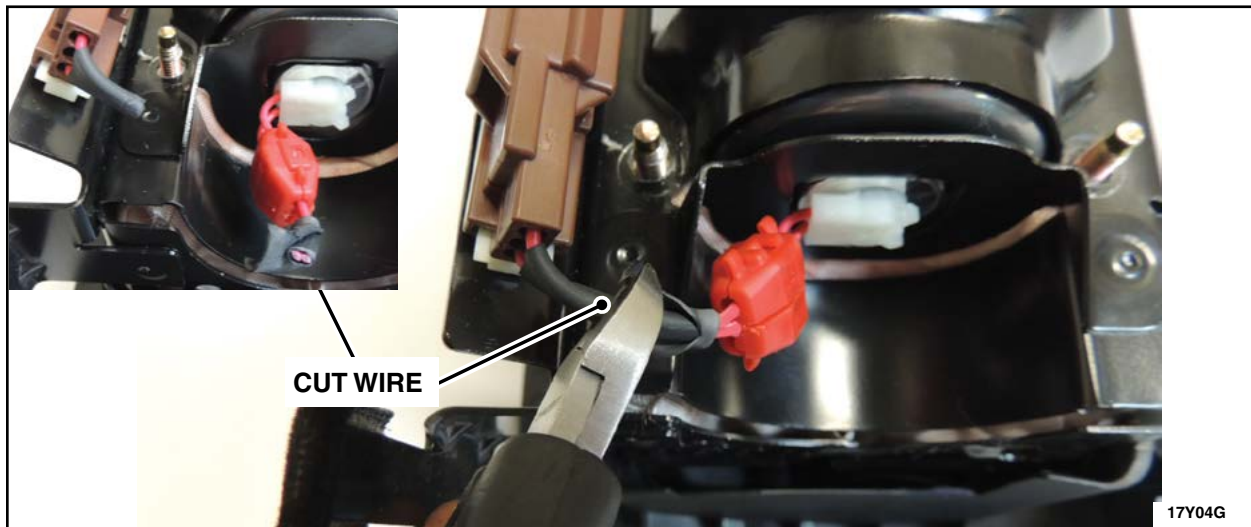

FIGURE 9
3. Cut the inflator wiring between connector and the shunt. See Figure 9.